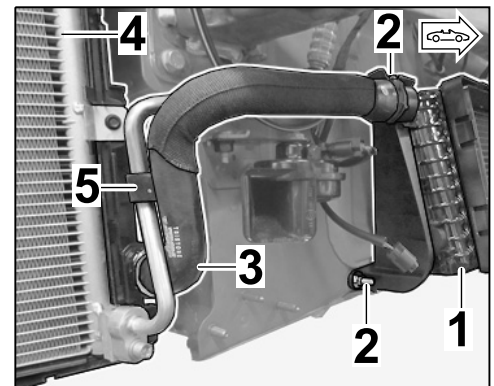

Figure 5
2.1 Fit radiator assembly at the threaded bolt on the front panel using hexagon nuts (4 x M6), (⇒ *Workshop Manual '198019 Removing and installing middle radiator'*, ⇒ *Figure 5*)